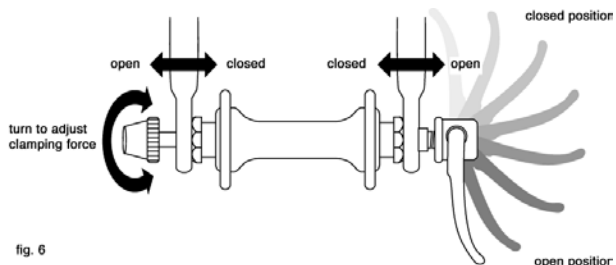

fig. 6
The wheel quick release uses a cam action to clamp the bike's wheel in place (see fig. 6). Because of its adjustable nature, it is critical that you understand how it works, how to use it properly, and how much force you need to apply to secure the wheel.
(3) Holding the quick-release lever in the OPEN position with your right hand, tighten the tension adjusting nut with your left hand until it is finger tight against the fork dropout (fig. 6).
(4) While pushing the wheel firmly to the top of the slots in the fork dropouts, and at the same time centering the wheel rim in the fork, move the quick-release lever
upwards and swing it into the CLOSED position (fig. 6 & 7a). The lever should now be parallel to the fork blade and curved toward the wheel. To apply enough clamping force, you should have to wrap your fingers around the fork blade for leverage, and the lever should leave a clear imprint in the palm of your hand.
(1) Make sure that the rear derailleur is still in its outermost, high gear, position
(2) Pull the derailleur body back with your right hand.
(3) Move the quick-release lever to the OPEN position (see fig. 6). The lever should be on the side of the wheel opposite the derailleur and freewheel sprockets.
(4) Put the chain on top of the smallest freewheel sprocket. Then, insert the wheel into the frame dropouts and pull it all the way in to the dropouts.
Some bikes are equipped with a quick-release seat post binder. The seatpost quick-release binder works exactly like the wheel quick-release (Section 4.A.1) While a quick release looks like a long bolt with a lever on one end and a nut on the other, the quick release uses a cam action to firmly clamp the seat post (see fig. 6).